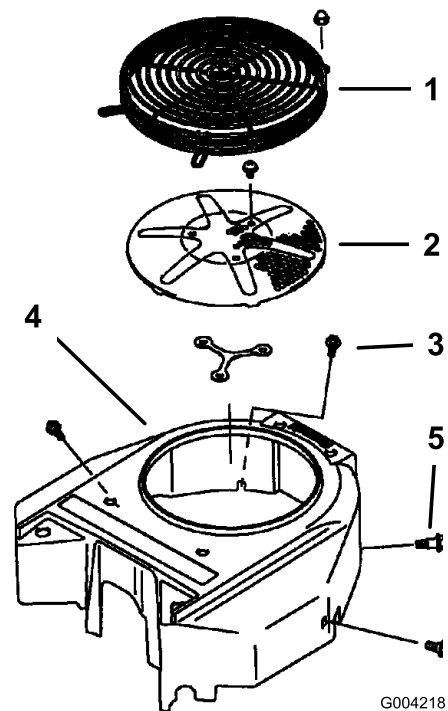

Figure 78
Before each use remove any build-up of grass, dirt or other debris from the engine screen. This will help insure adequate cooling and correct engine speed and will reduce the possibility of overheating and mechanical damage to the engine (Figure 78).
3. Remove the air intake screen, recoil starter and fan housing (Figure 78).
5. Install air intake screen, recoil starter and fan housing (Figure 78).